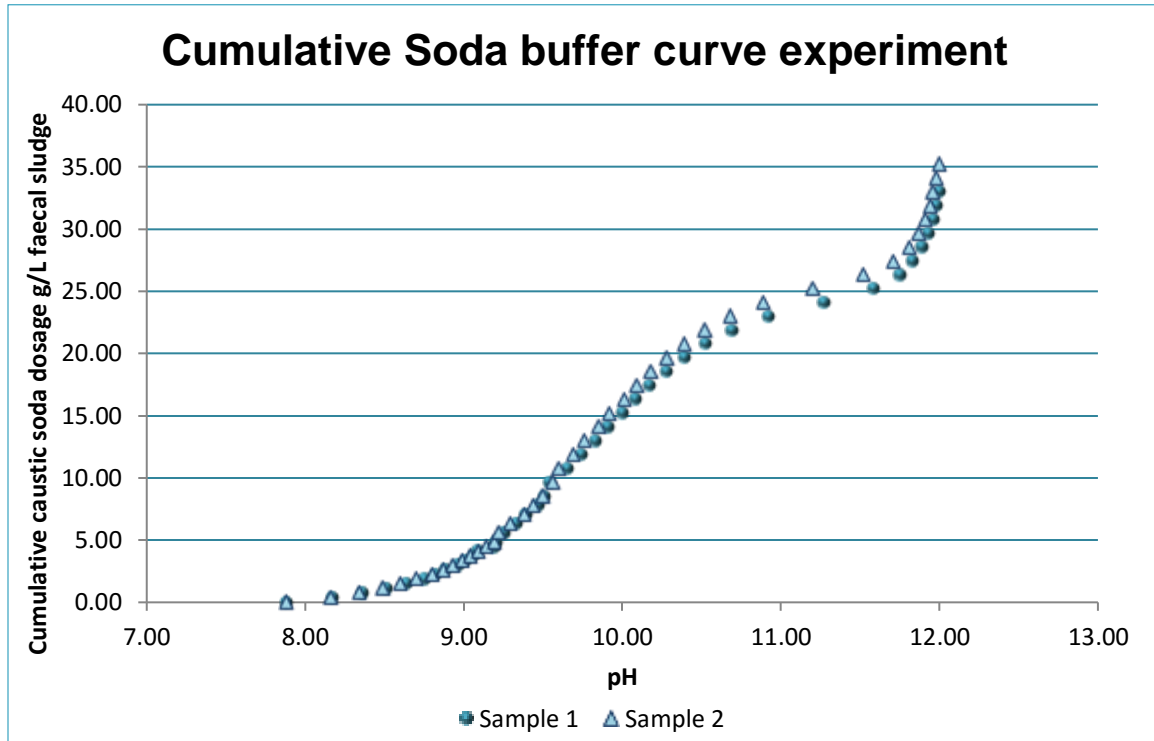

Figure 1: Cumulative Soda Buffer Curve for sample of sludge (2/02/2016)
9. Using Excel, the cumulative soda addition was calculated and a curve illustrated soda dosage per L sludge vs resultant pH was generated as given in Table 1 and Figure 1.
For the sludge samples tested for the experiment conducted on the 2nd February 2016, the following soda dosage curve was developed as illustrated in *Figure 1*.